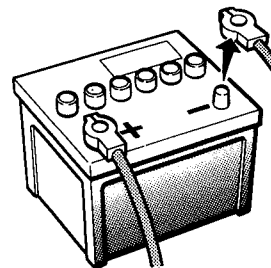

Fig. 2
- To prevent shorts, be sure to disconnect the negative battery terminal. (Fig. 2)